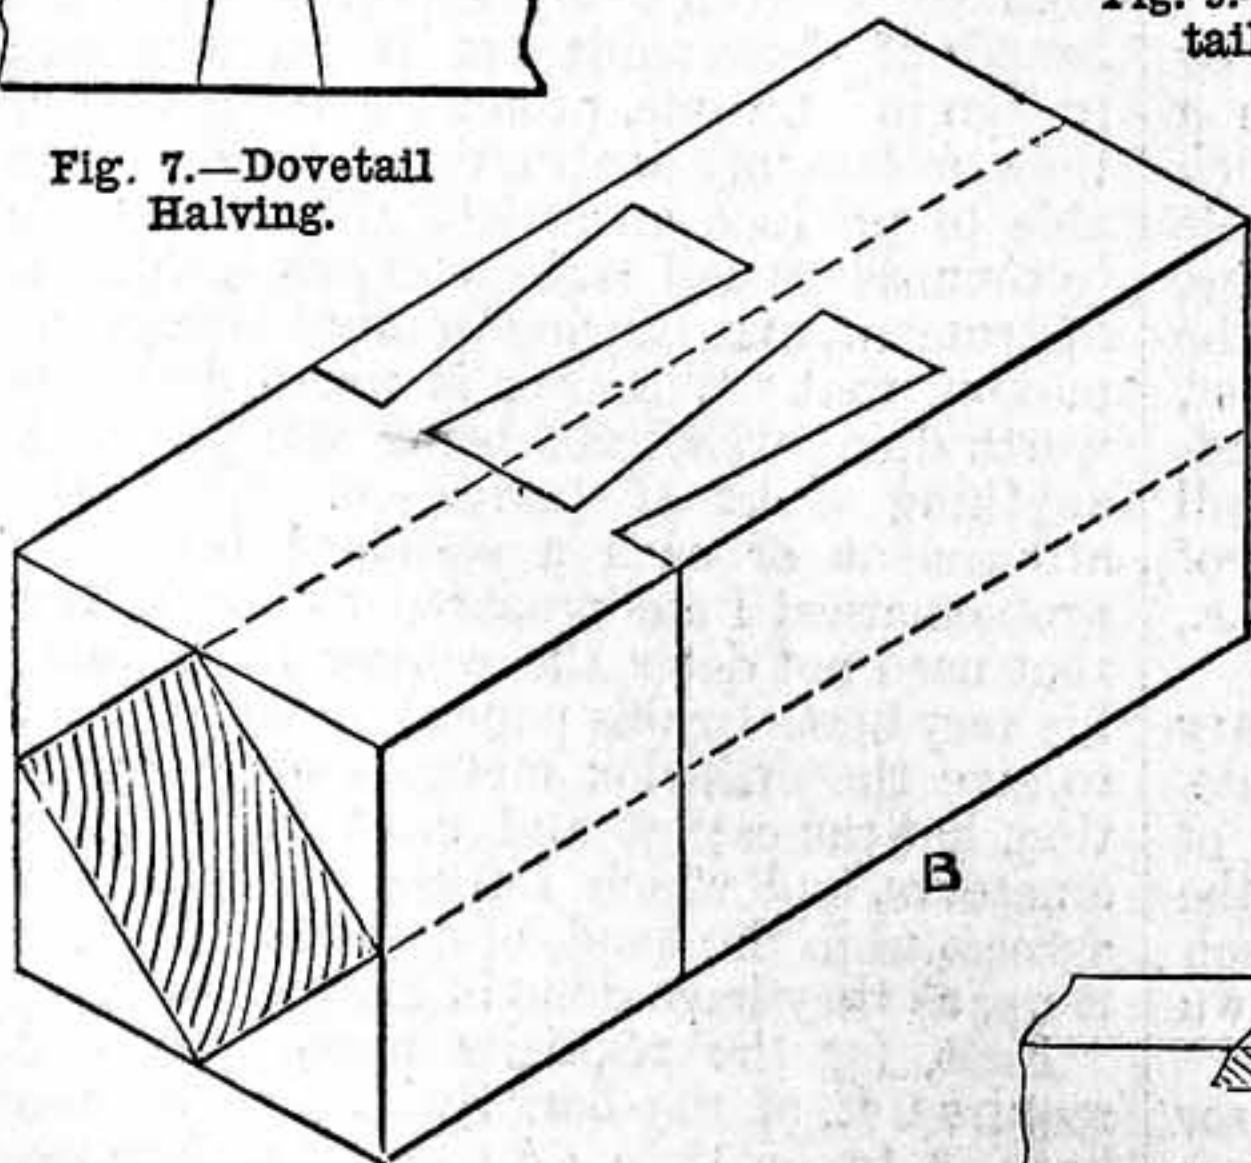

Fig. 9.—Block with Dovetail on Four Sides.
*Block apparently Dovetailed on Four Sides.*—This is shown at Fig. 9. A shows the block, and B the method of dovetailing. The pieces are dovetailed together with two pins, and then faced up to the smaller section shown on the end of B, which gives the appearance shown at A.